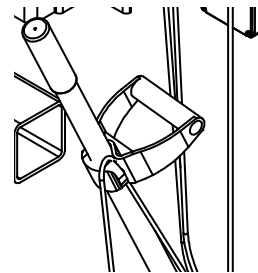

Figure 12
- e. Route the cable through the middle handle grip to help ensure the cable stays out of the way of the chock and the wheel during operation. See Figure 12.